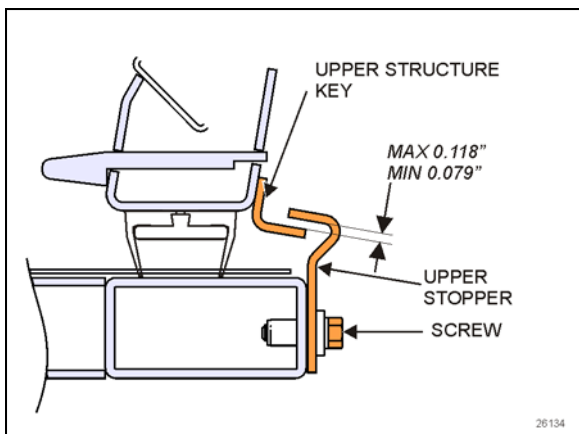

FIGURE 25: UPPER INNER STOPPERS ADJUSTMENT
1. Adjust the upper structure key and the inner stoppers according to Figure 25 with the seal deflated. When inflating, the seal presses the roof structure upward slightly and at that moment, the upper inner stopper comes into contact with the upper structure key.